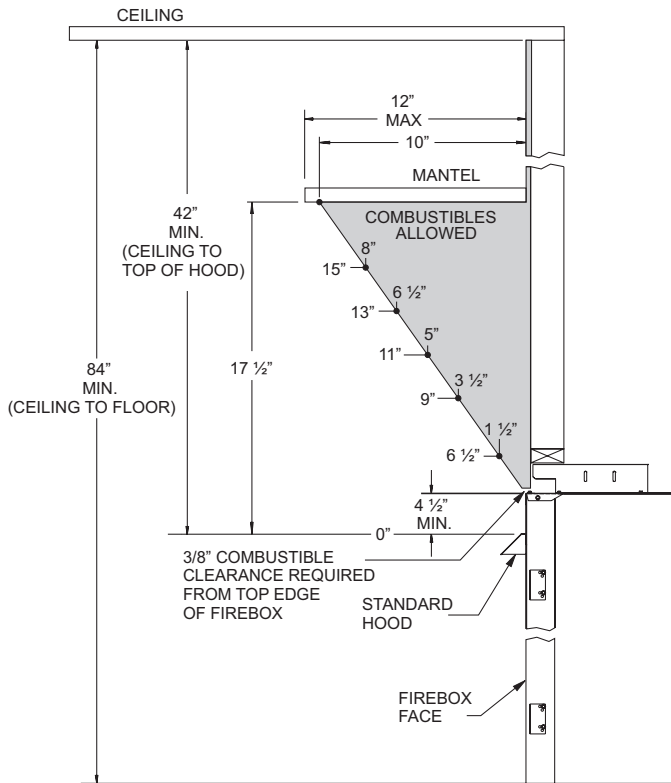

Figure 3a - Mantel Clearances with Standard Hood
**Ceiling Clearances:** The ceiling height should not be less than 42" from the top of the hood. See Figures 3a and 3b.